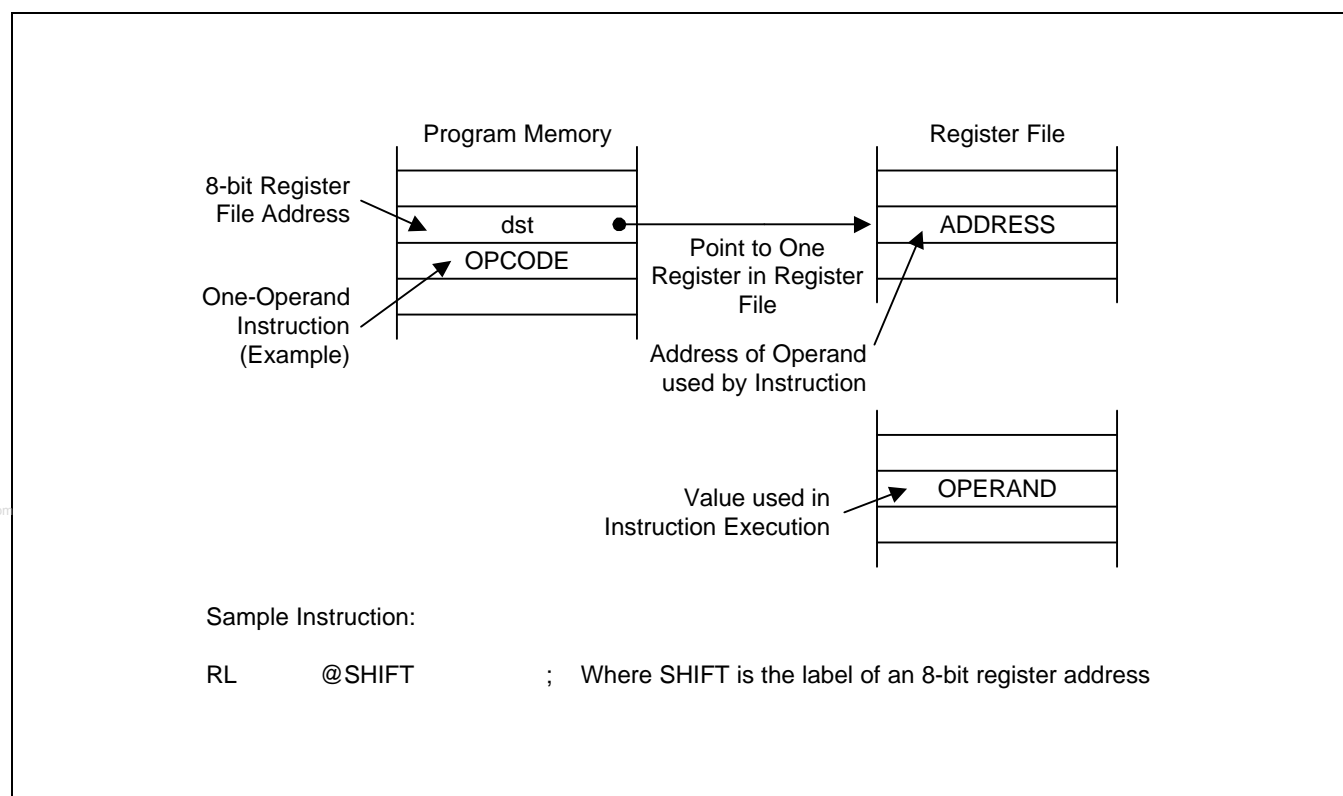

Figure 3-3. Indirect Register Addressing to Register File
In Indirect Register (IR) addressing mode, the content of the specified register or register pair is the address of the operand. Depending on the instruction used, the actual address may point to a register in the register file, to program memory (ROM), or to an external memory space (see Figures 3-3 through 3-6).